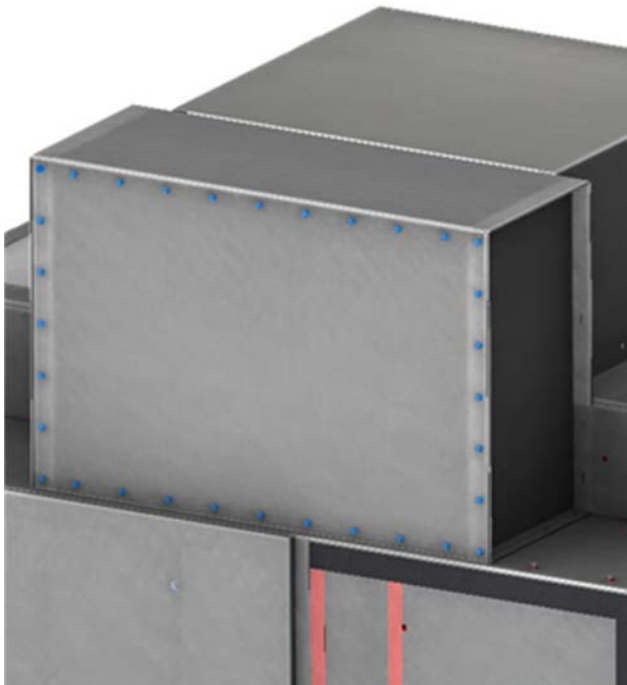

Figure 5: Secure the plenum access cover with the supplied hardware
- Install the plenum access cover and secure it with the supplied hardware (Figure 5).